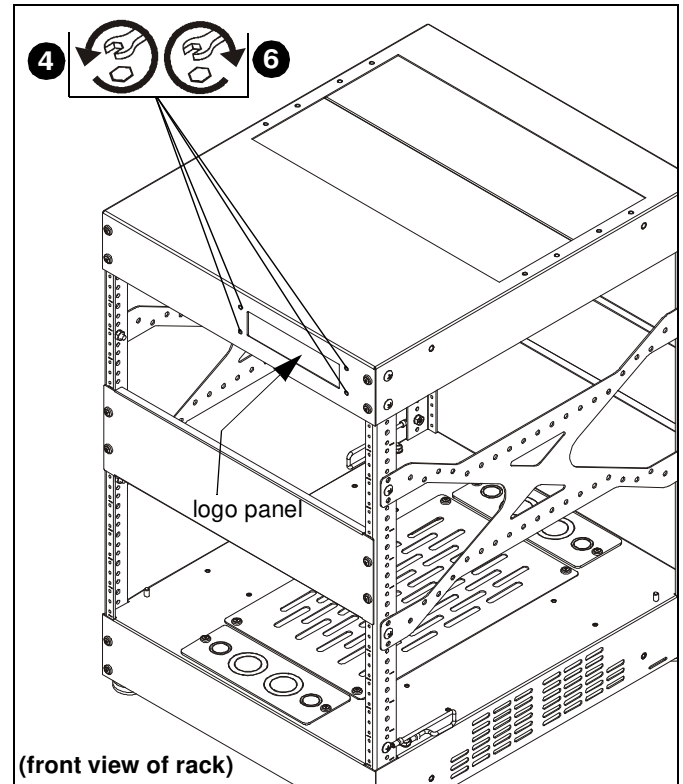

Figure 9
4. Change optional logo panel by removing and saving 4 nuts from studs at inside top of front. (See Figure 9)
5. Remove blank panel and replace with optional personalized logo panel. (See Figure 9)